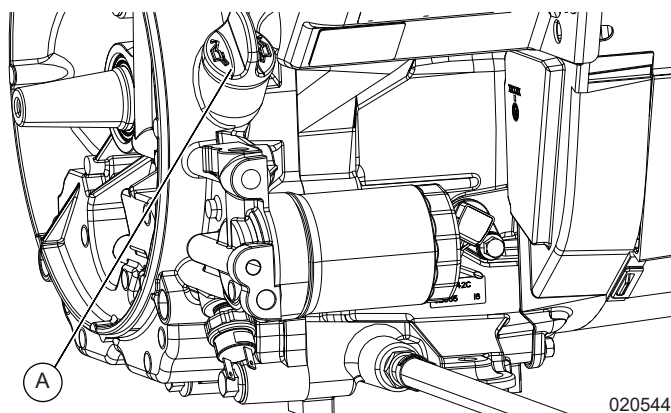

Figure 11-2. Oil Fill/Dipstick Location
1. See Figure 11-2. Remove oil dipstick (A) and wipe it dry with a clean cloth.